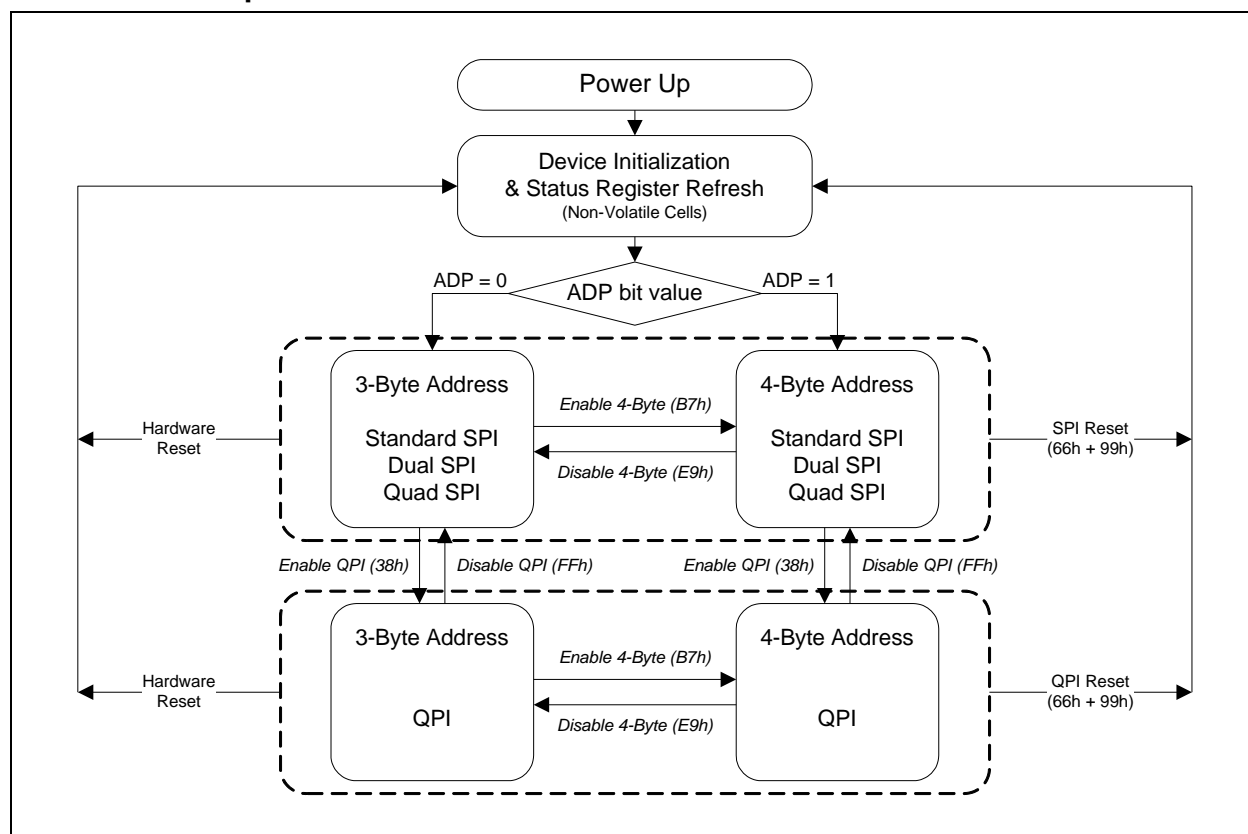

Figure 3. W25Q512NW Serial Flash Memory Operation Diagram
The W25Q512NW supports Quad Peripheral Interface (QPI) operations only when the device is switched from Standard/Dual/Quad SPI mode to QPI mode using the “Enter QPI (38h)” instruction. The typical SPI protocol requires that the byte-long instruction code being shifted into the device only via DI pin in eight serial clocks. The QPI mode utilizes all four IO pins to input the instruction code, thus only two serial clocks are required. This can significantly reduce the SPI instruction overhead and improve system performance in an XIP environment. Standard/Dual/Quad SPI mode and QPI mode are exclusive. Only one mode can be active at any given time. “Enter QPI (38h)” and “Exit QPI (FFh)” instructions are used to switch between these two modes. Upon power-up or after a software reset using “Reset (99h)” instruction, the default state of the device is Standard/Dual/Quad SPI mode. To enable QPI mode, the non-volatile Quad Enable bit (QE) in Status Register-2 is required to be set. When using QPI instructions, the DI and DO pins become bidirectional IO0 and IO1, and the /WP and /HOLD pins become IO2 and IO3 respectively. See Figure 3 for the device operation modes.